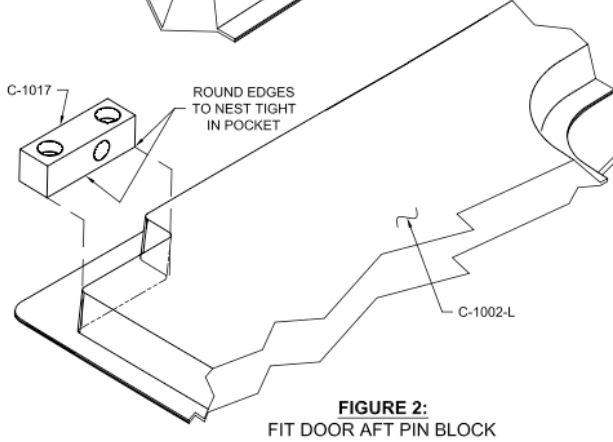

**FIGURE 1:
Step 1: Position the C-1009 Door Fwd Pin Block in the pocket in the C-1002-L Door as shown in Figures 1 and 3. Round the upper, aft, and lower outboard edges as required for the door fwd pin block to nest tightly against the door. The door forward pin block must not protrude beyond the forward "wall" of the door.